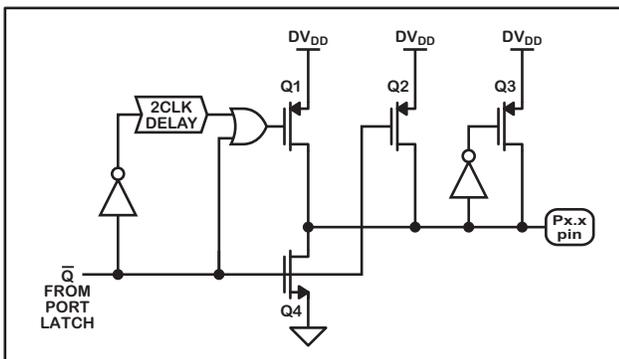

Figure 21 – Internal Pull-Up Configuration
*See Figure 21 for details of internal pull-up.
Unlike Port 0, however, both Port 2 and Port 3 feature an internal pull-up function. The internal pull-up (represented as a single block in Figure 19 and Figure 20) actually consists of active circuitry as shown in Figure 21.
Whenever a Port 2 or Port 3 bit latch transitions from low to high, Q1 in Figure 21 turns on for 2 oscillator periods to quickly pull the pin to a logic high state. Once there, the weaker Q3 turns on, thereby latching the pin to a logic high. If the pin is momentarily pulled low externally, Q3 will turn off, but the very weak Q2 will continue to source some current into the pin, attempting to restore it to a logic high.